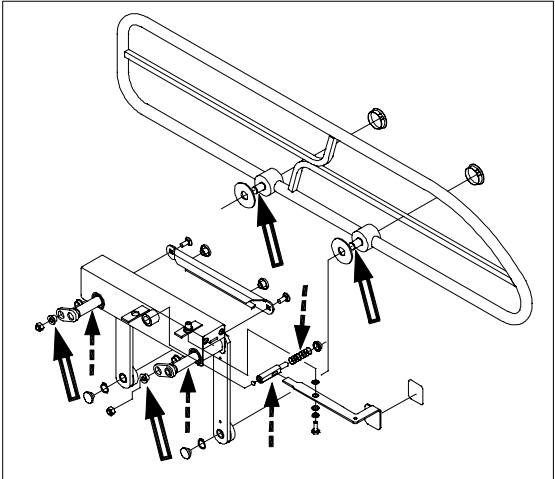

Figure 2.2B
Do not use cleaning solutions containing a degreaser near the siderail pivots (see figure 2.2B on page 11) to avoid deteriorating the properties of the grease used to ensure a smooth movement of the siderails.
- \_\_\_ The siderail plungers and plunger springs (see fig. 2.2B, page 11).
- \_\_\_ The siderail arm glide rods (see fig. 2.2B, page 11).
- \_\_\_ The siderail shafts and transfer plate sleeves (see fig. 2.2B, page 11).